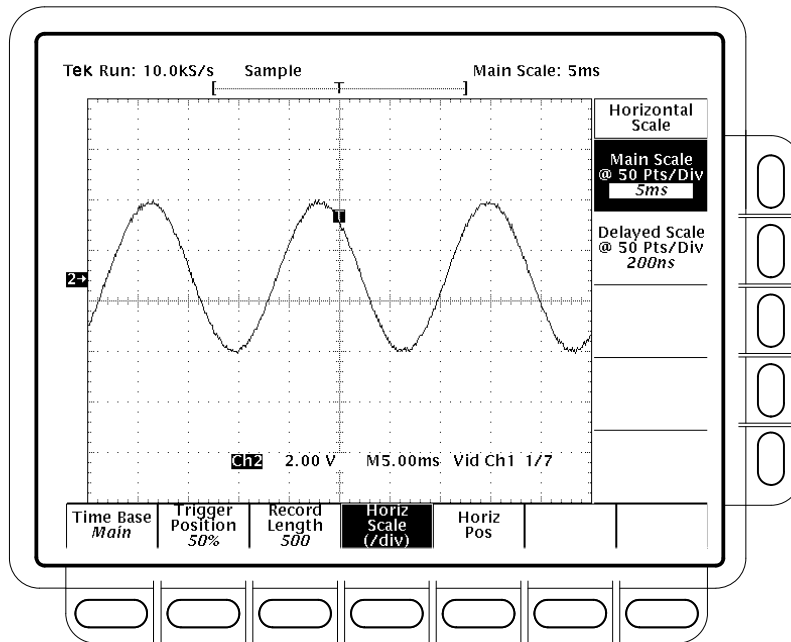

Figure 4-31: 60 Hz Rejection Test Setup Signal
- Adjust the SG 502 for three vertical divisions of 60 Hz signal. See Figure 4-31. The signal will not be triggered. That is, it will run free.